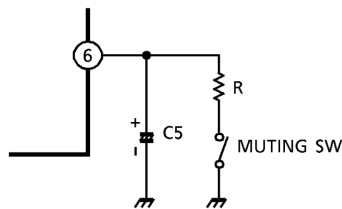

Fig.2
Audio muting can be accomplished by connecting pin (6) (ripple filter) to GND as shown in Fig.2.